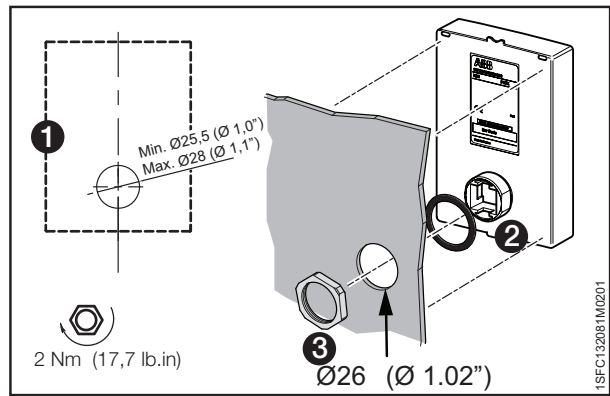

Figure 4.9
1. To remove the movable HMI from the Softstarter, loosen the plastic latch below the movable HMI, see **1** and **2** in **Figure 4.9**.
2. Drill a hole where to attach the movable HMI. Maximum dimension of the hole is $\text{Ø}26$ ($\text{Ø} 1.02''$), see **1** in **Figure 4.9**. Put the rubber packing around the threaded network connector on the movable HMI, see **2** in **Figure 4.9**. Push the threaded network connector through the drilled hole. See **3** in **Figure 4.9**. Fasten the plastic screw-nut on the threaded network connector, with 2 Nm (17.7 lb/in).